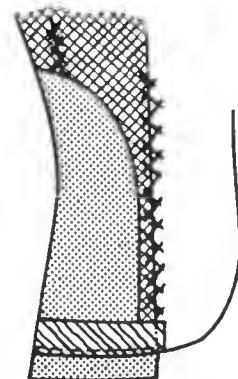

Fig. 224. Attaching the reinforcement.
- On a less firm fabric extend the bias  $\frac{1}{8}$  to  $\frac{1}{4}$  in. below the marked hemline, but on firm fabrics bring it just to the hemline (Fig. 224).
- Extend the strip  $\frac{1}{2}$  in. under the front facing on each side (Fig. 224).